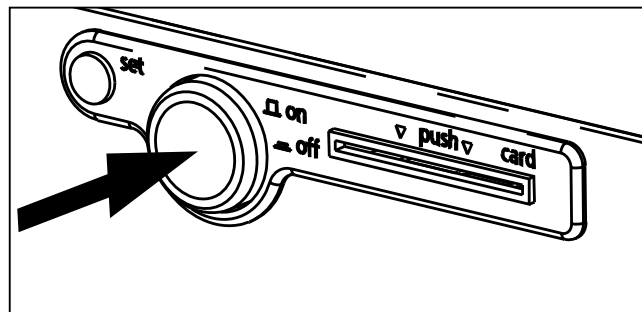

Fig. 20
- ▶ Switching off: press the main switch so that it retracts back into the appliance (Fig. 20).